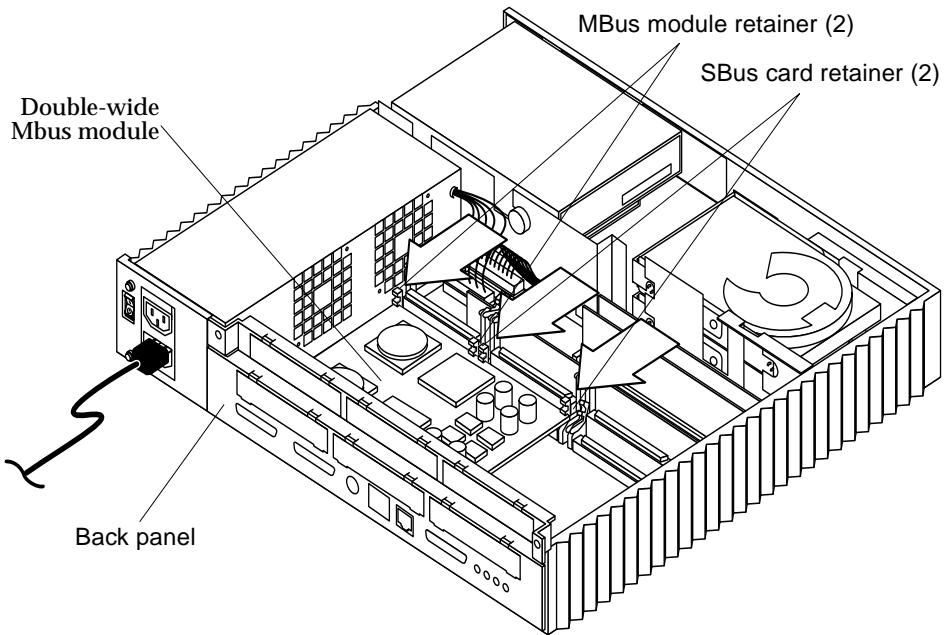

FIGURE 11-10 Locking the MBus Module Retainers
- 4. Lock the retainers over the edge of the MBus module (FIGURE 11-10).**
Note – If the MBus module is not fully inserted into the MBus slot, the retainers may not lock over the edge of the MBus module. The arrows in FIGURE 11-10 point to the retainers that must lock.